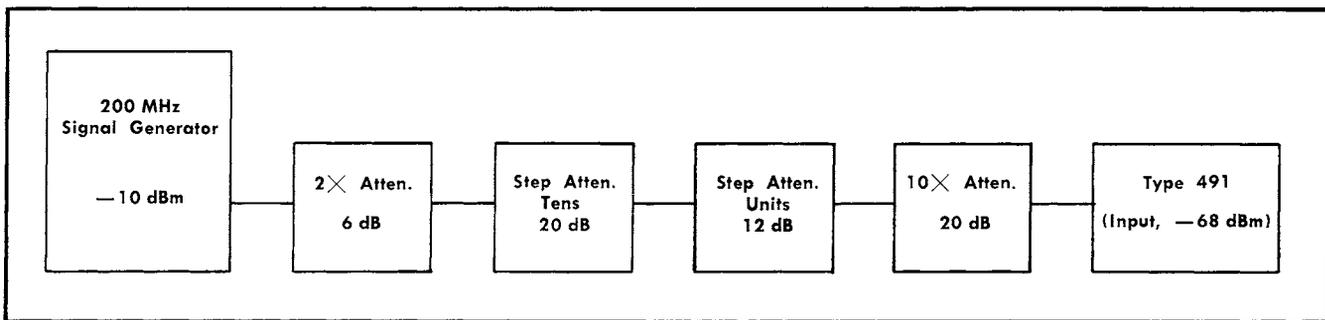

Fig. 5-5 Equipment block diagram showing setup to check attenuator accuracy.
b. Apply a 200 MHz signal from the signal generator that is 10 dB below 1 mW, through a 2X attenuator (6 dB), a Tens and Units step attenuator and a 10X attenuator (20 dB) to the Type 491 RF INPUT connector. (Fig. 5-5).